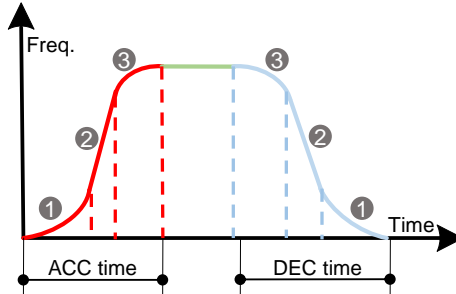

Fig.5-4 S-curve acceleration/deceleration
Starting stage of S-curve is shown in Fig.5-4 as “①”, where the changing rate of output frequency increases from 0;
Rising stage of S-curve is shown in Fig.5-4 as “②”, where the changing rate of output frequency is constant;
Ending stage of S-curve is shown in Fig.5-4 as “③”, where the changing rate of output frequency decreases to zero.